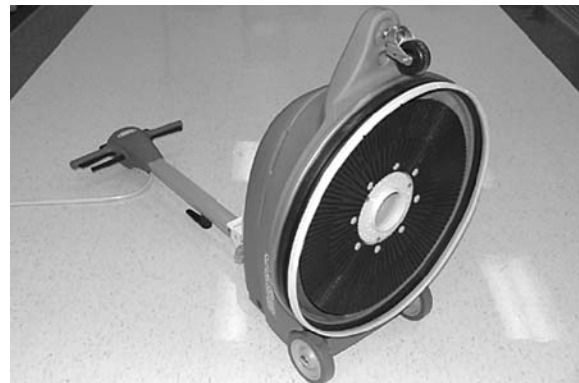

FIG. 1
- 3. Pull the handle height adjustment lever and raise the handle to the upright position. Carefully tilt the machine backwards and rest the handle on the floor (Figure 1).